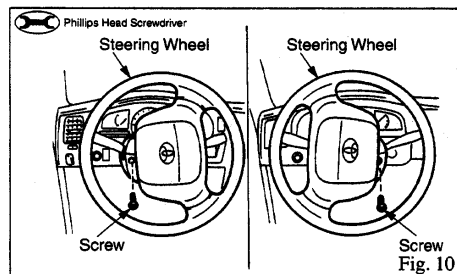

Fig. 10
- (9) A) Turn the steering wheel to the left, then remove the screw. (1 Screw) (Fig. 10)
B) Turn the steering wheel to the right, then remove the screw. (1 Screw) (Fig. 10)